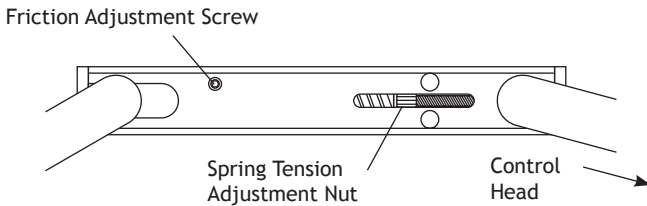

Figure 20. Tension Adjustment Locations
2. Raise the control head end of the flex arm until the friction adjustment socket head screw is accessible through the access hole in the arm (see Figure 20). Using a 5/32" hex key loosen, but do not remove, the friction adjustment screw.